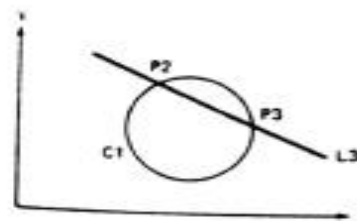

FIGURE A8.16
3. By the intersection of a line and a circle. See Figure A8.16.